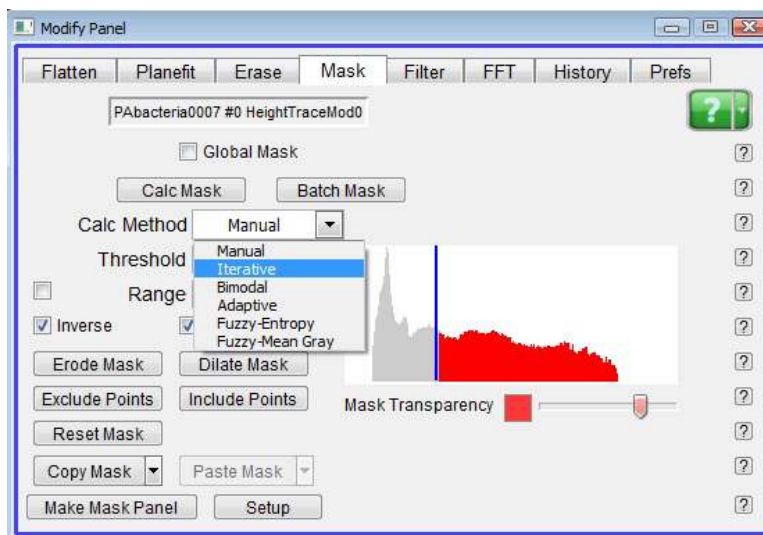

Figure 1.8.: Image masking controls.
2. Go to the Mask tab of the Modify Panel (Figure 1.8 on page 26).